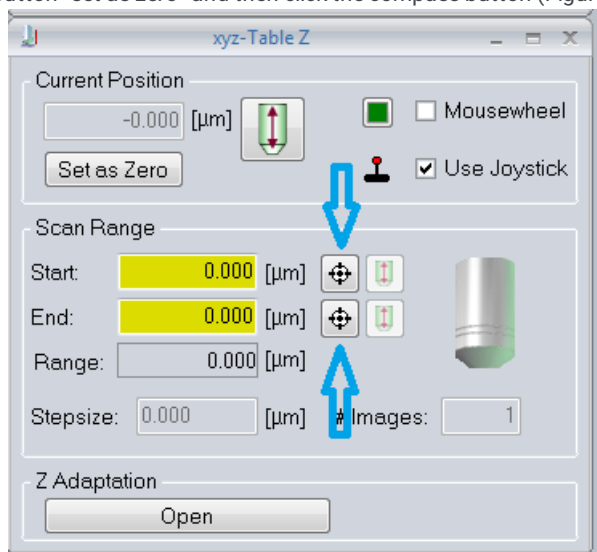

Figure 16.
1. In the "Scan Range" window, set the Z-stack – this will define the depth of your specimen (Figure 16)
- b. Rotating the Z-knob counterclockwise will bring you to the top, or "start" of your sample. Once at the top, click the button "set as zero" and then click the compass button (Figure 16).
- c. Rotating the Z-knob clockwise will bring you to the bottom, or the "end" of your sample, then click the compass button (Figure 16).